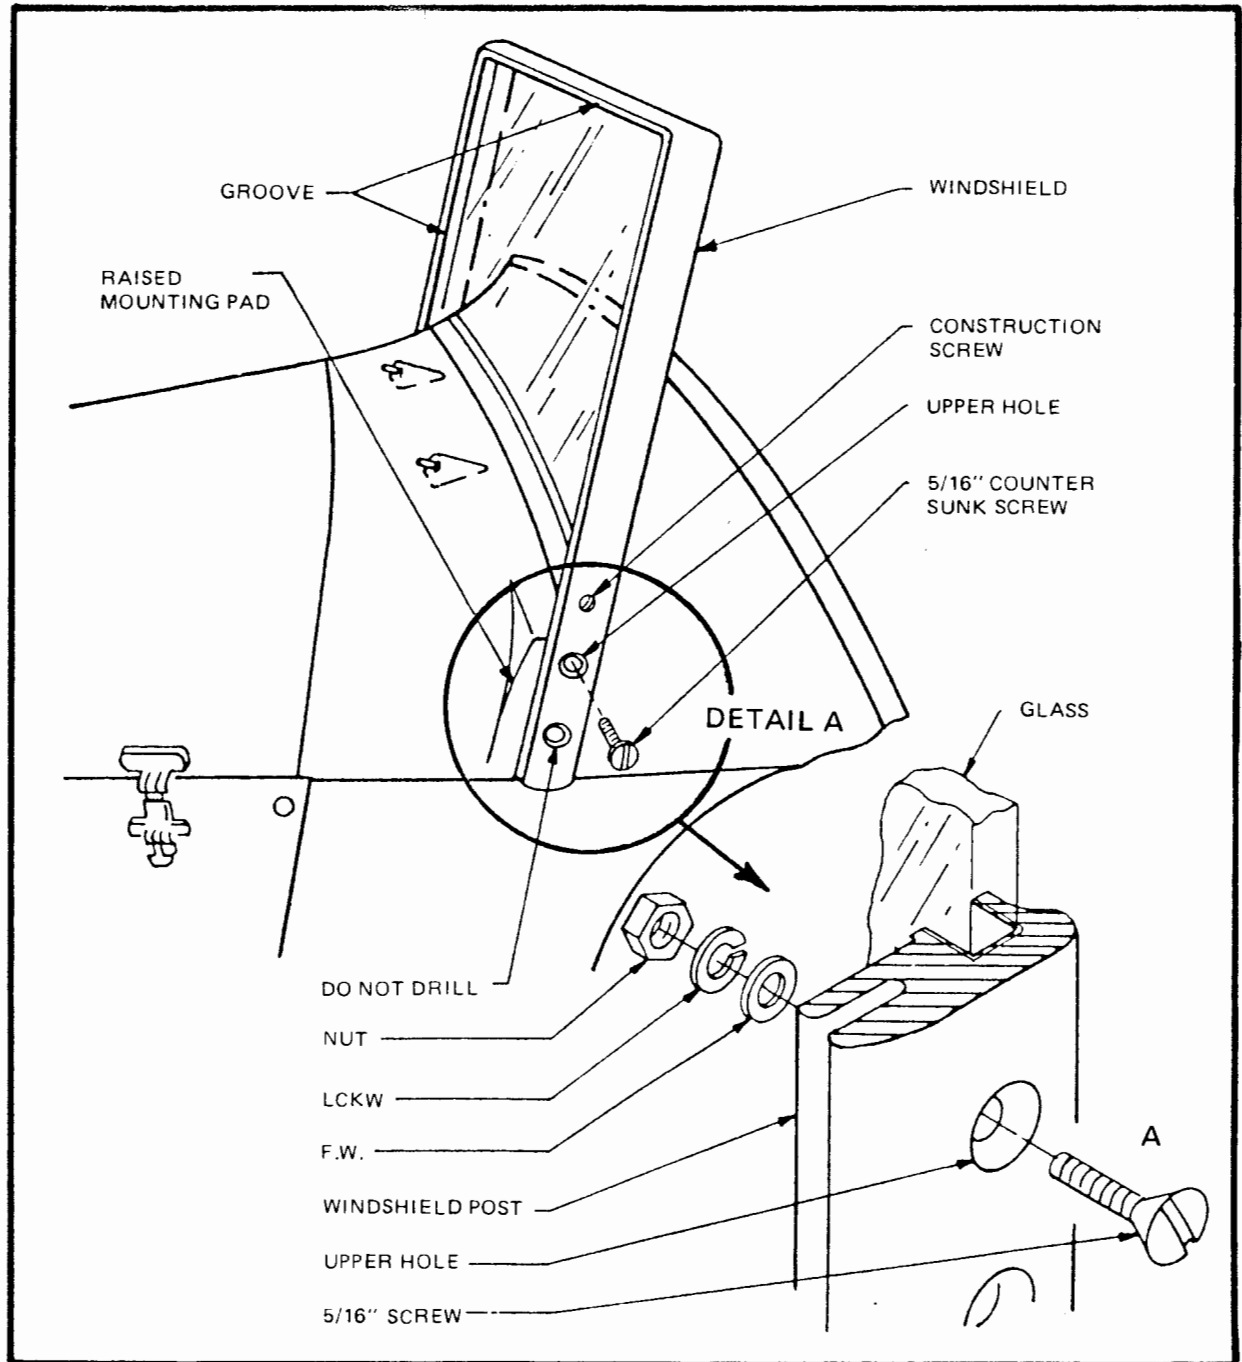

Figure 62
WINDSHIELD (Refer to Figure 62)
- Slide windshield over body, centering each side post on the raised mounting pads on the body sides. (Loosen the construction screw on each side of the frame if necessary.) Angle the windshield back so that the angle of the frame matches that of the forward edge of the mounting pad. (Figure 62) The groove in the edge of the windshield must face forward to allow installation of the convertible top.